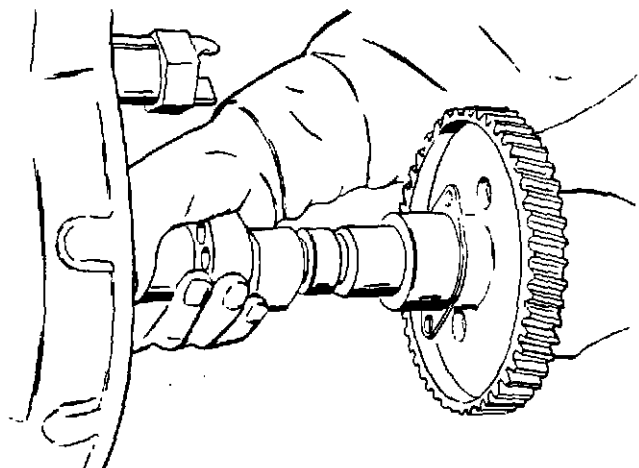
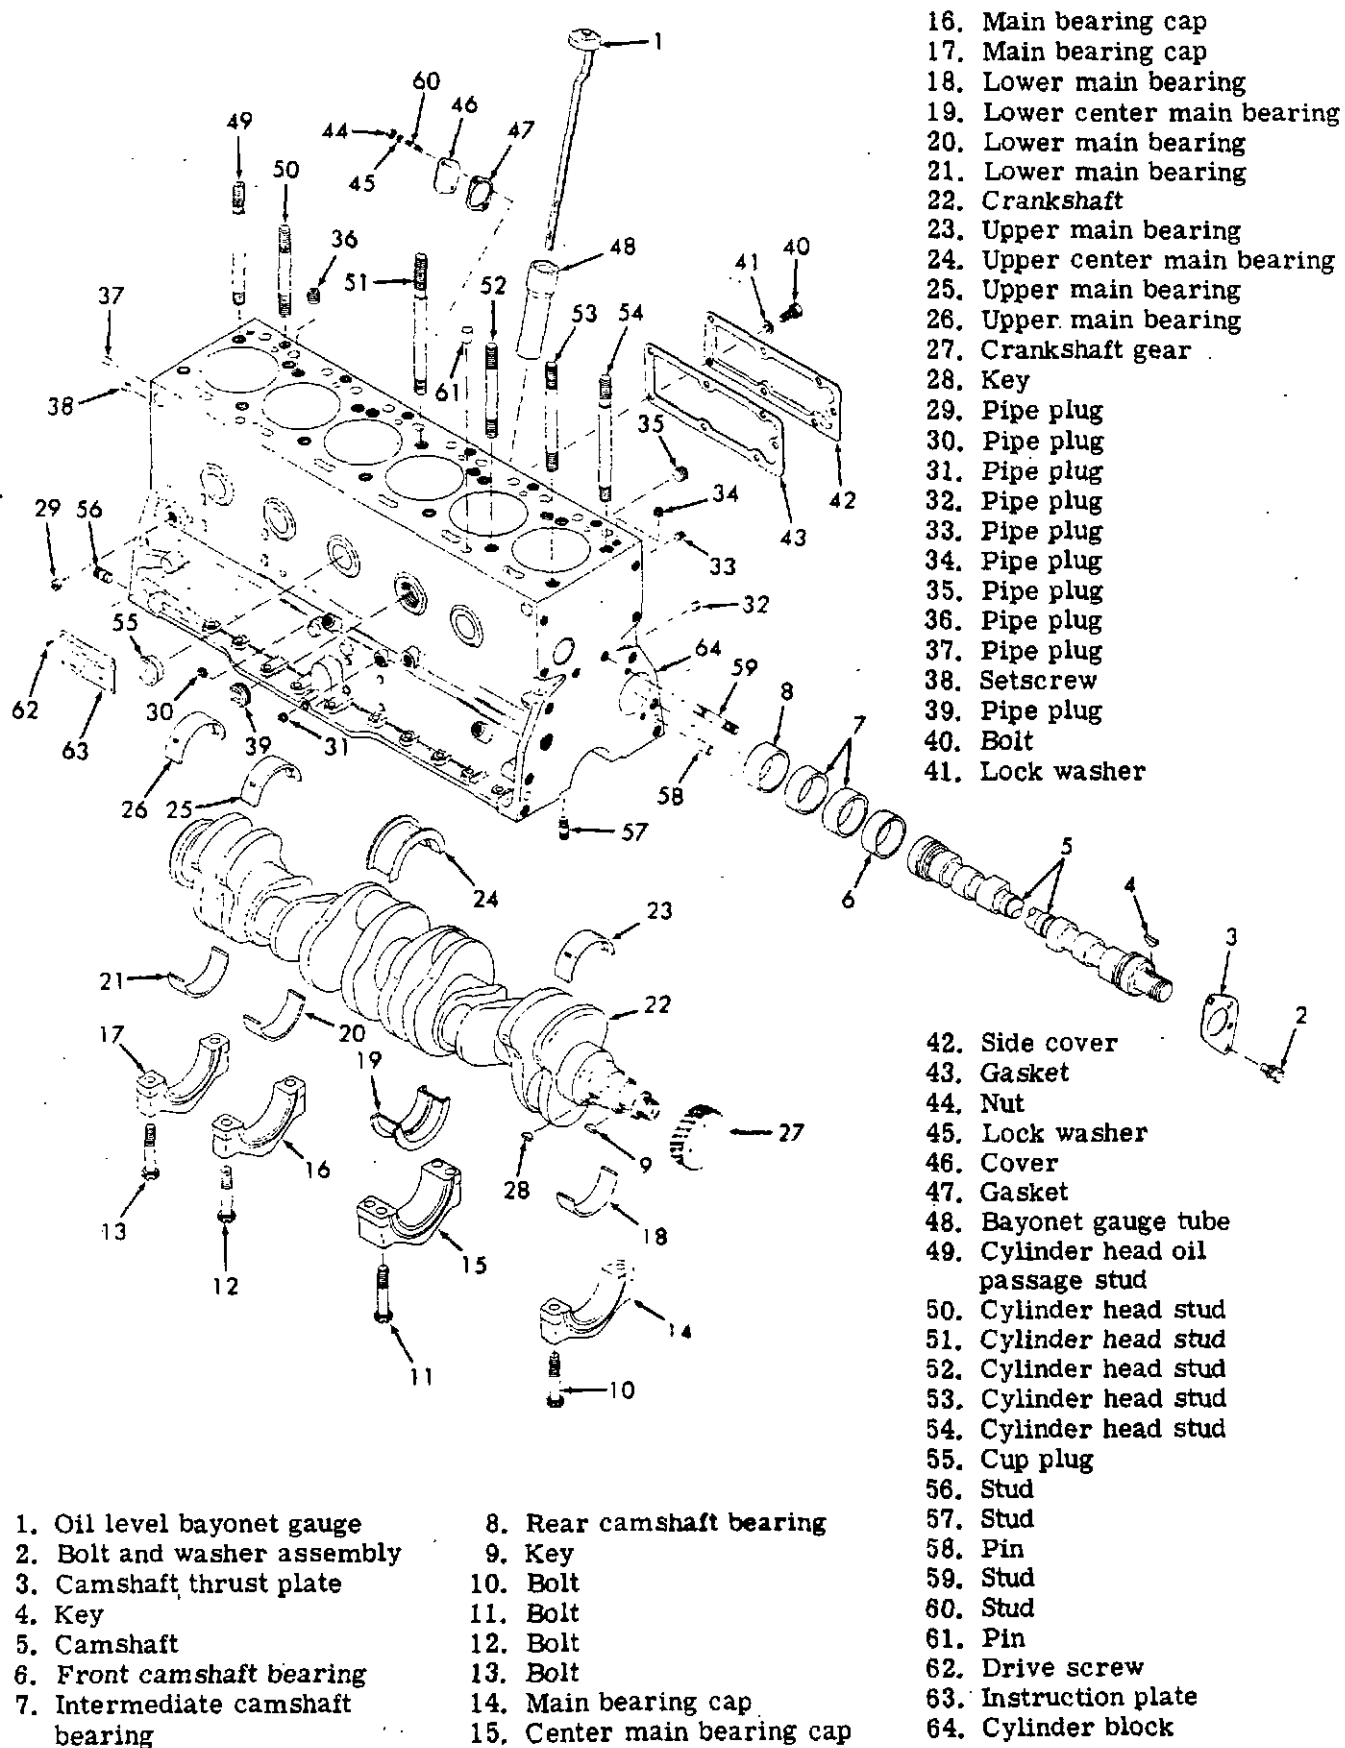
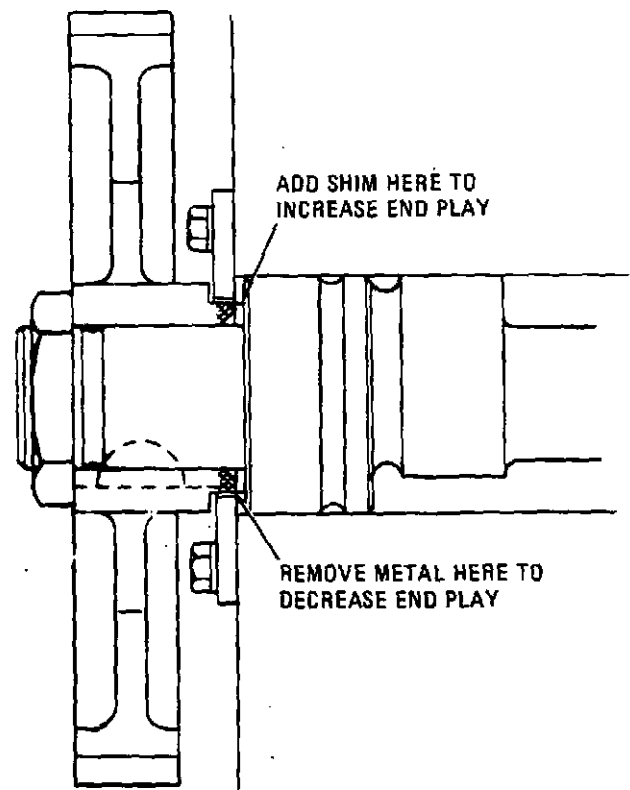

Figure 5-30. Camshaft and Thrust Plate Removal
Figure 5-31. Cylinder Block, Exploded View
Figure 5-32. Adjusting Camshaft End Play
10. Remove the thrust plate mounting bolt and washer assembly (2, figure 5-31) and pull the camshaft assembly forward out of the cylinder block as shown in figure 5-30.
11. Remove the camshaft bearings (6, 7, and 8, figure 5-31). If the bearings cannot be withdrawn by hand, drive out the camshaft bearings with a brass drift. If difficulties are encountered removing the rear camshaft bearing, it may be necessary to remove the bellhousing.
12. If it is necessary to remove the camshaft gear (40, figure 5-26) from the camshaft, remove the nut (39), place the shaft in an arbor press and, with suitable supports under the gear, press the shaft out of the gear. Remove woodruff key (4, figure 5-31) from camshaft and remove the camshaft thrust plate (3).
2. Install the front, rear, and intermediate camshaft bearings (6, 7, and 8, figure 5-31) in the cylinder block. Replacement camshaft bearings are precision cut and no line reaming is required. When installing, make sure the oil holes in the bearings are aligned with the oil holes in the drilled passageways in the cylinder block. Tap bearings into place with a bearing driver.
4. Secure the thrust plate to the cylinder block with two bolt and washer assemblies (2, figure 5-31). Check the camshaft end play. Normal end play is 0.005 to 0.008 inch and shall not exceed 0.012 inch. To decrease end play, use a draw file to remove a small amount of metal from the camshaft gear hub on which the thrust plate rides. See figure 5-32. To increase end play, add a shim between the camshaft gear hub and the camshaft bearing, or, using a piece of very fine emery cloth on a surface plate, polish the thrust plate to the desired thickness. Check the backlash of the camshaft gear to the crankshaft gear. The backlash must be 0.0015 to 0.0025 inch.